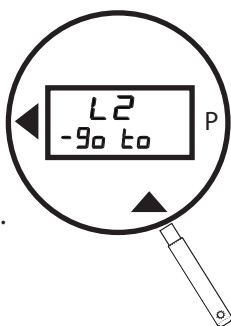

Figure 19.
- Pass the wand over the **▲** once. The selection will advance to **L2 -Go to** (Figure 19).